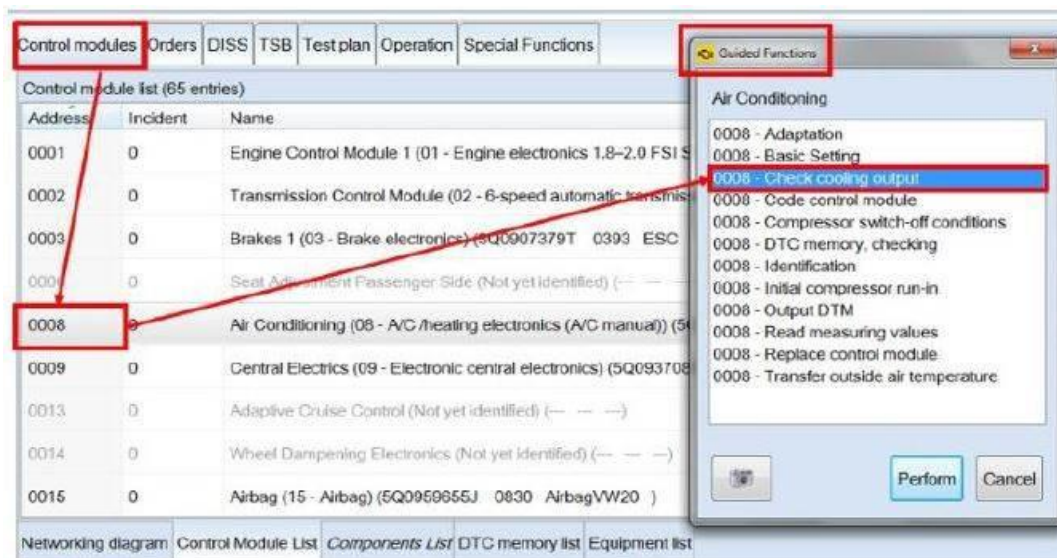

Figure 1: AC Performance test CC Tiguan, Golf, Golf SportWagen, Jetta SportWagen, Jetta, New Beetle, NBC
- Select Check cooling performance from the Guided functions menu and select perform (Figure 1).